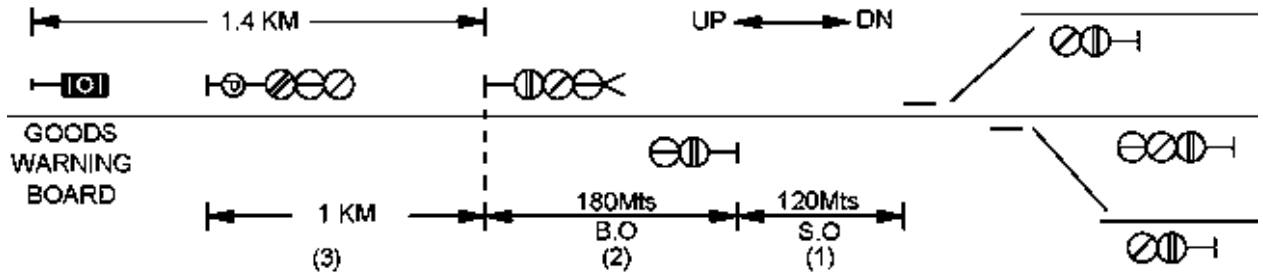
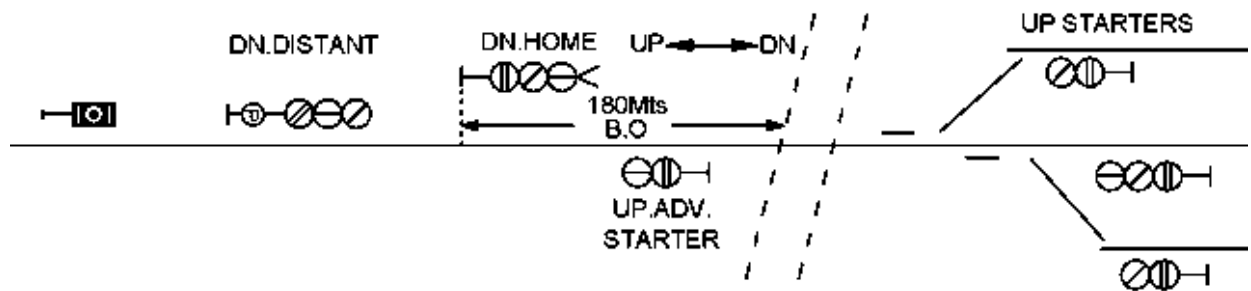

Fig.18.7
Fig.18.8
A typical layout with MAS signalling as shown in Fig. 18.7, may have a Level crossing at any location it is possible within the station limits is marked as (1) (2) & (3).
In the case of (1) if the gate is located on signal overlap i.e. between the up Advanced starter and the outer most trailing points on single line, as shown in fig.18.7 above the location of signals need not be changed as shown below Fig.18.8 . The gate shall be interlocked with down Home signal, up Starter, up Advanced starter and up Home signal.
- (iii) If the L.C gate is just ahead of the DN Distant Signal and far in rear of Home signal as in the case of (3) of Fig. 18.7. The gate stop signals with 'G' markers are provided on either side of the L.C. gate at 180 Mts, similar to that of (ii) above. The down distant will have only yellow and green aspects, the YY (attention) aspect can be dispensed with, since the distance between the down gate signal and the down Home is more than BD. The interlocking arrangements will be the same as mentioned for 18.12 (ii) above.